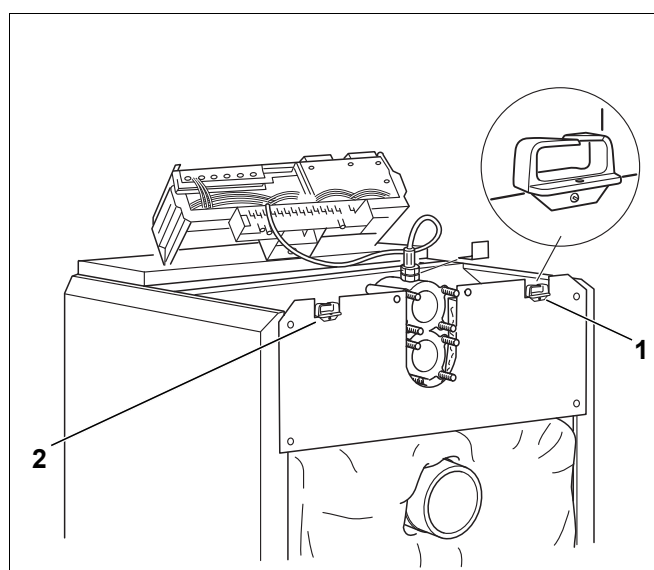

Fig. 46 Electrical connection
- Secure the cable gland (Fig. 46, [1] & [2]) on the l.h. and r.h. side to the rear of the boiler.